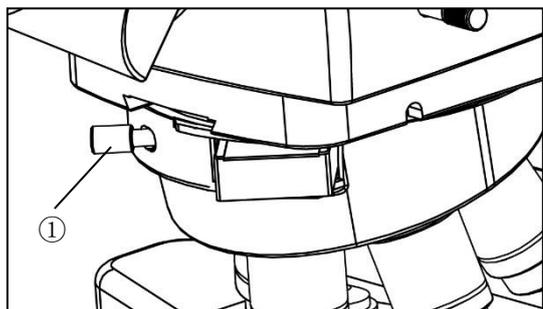

Fig.13
### 3-11 Use of extended feature boards (Fig.13)
As shown in Fig.13, a slot equipped with extended function board is reserved on the nosepiece. When the microscope lens is delivered, it is inserted into the slot with ordinary light and dark field board. If you want to use other extension function board, you just need to unscrew the serial number ① and loosen it, pull out the standard light and shade field board, and then insert the extension function board into the slot and tighten the screw of serial number ①.